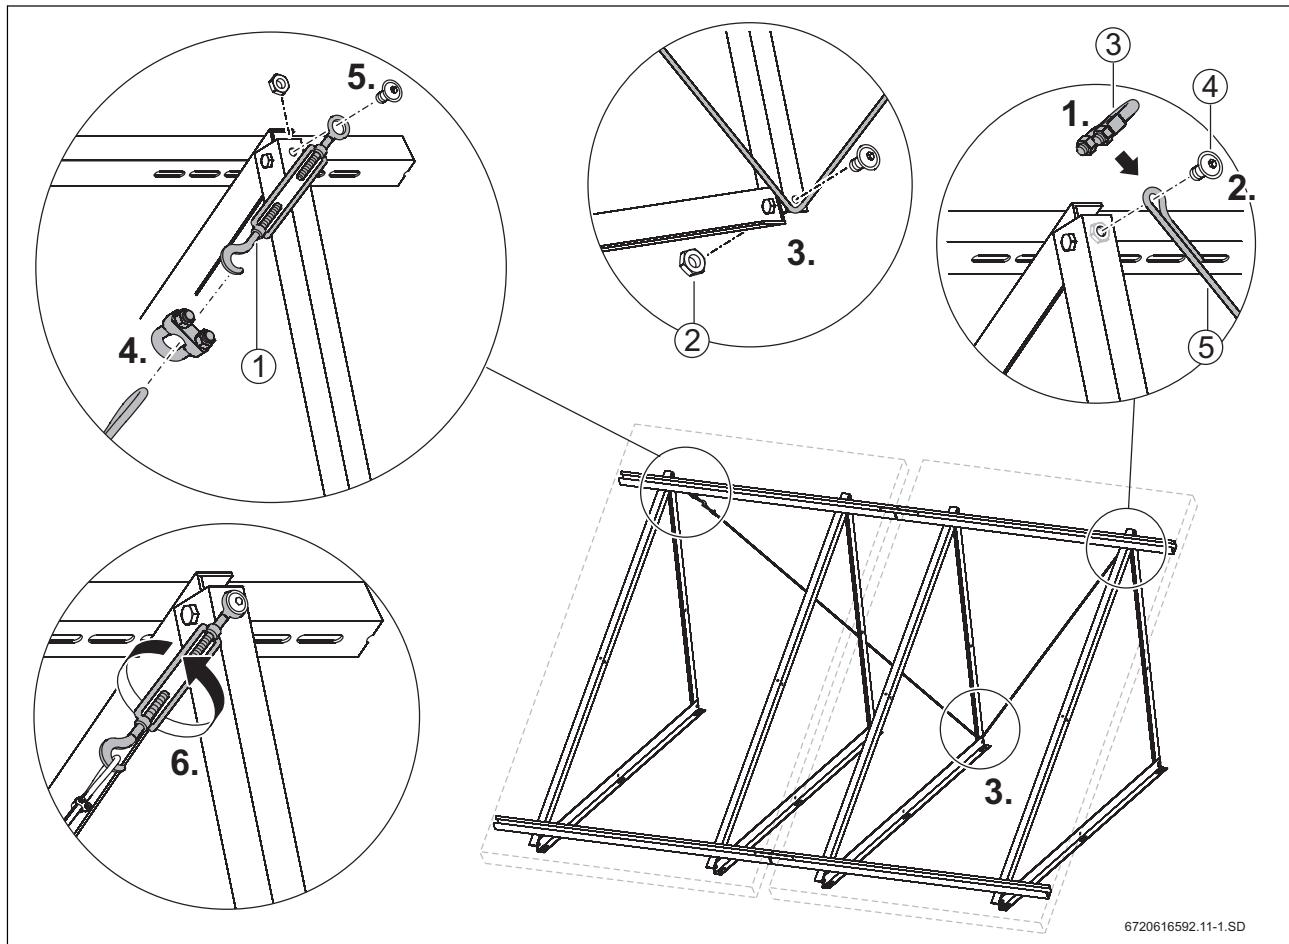

Fig. 26 Always attach the steel cable to two vertical collectors
- ▶ Ensure screw and nut (Fig. 26, Pos. 2) are sufficiently tight.